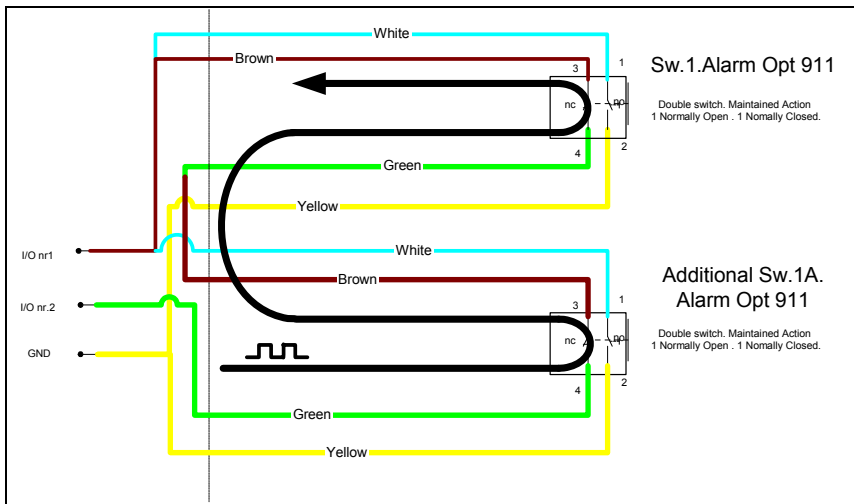
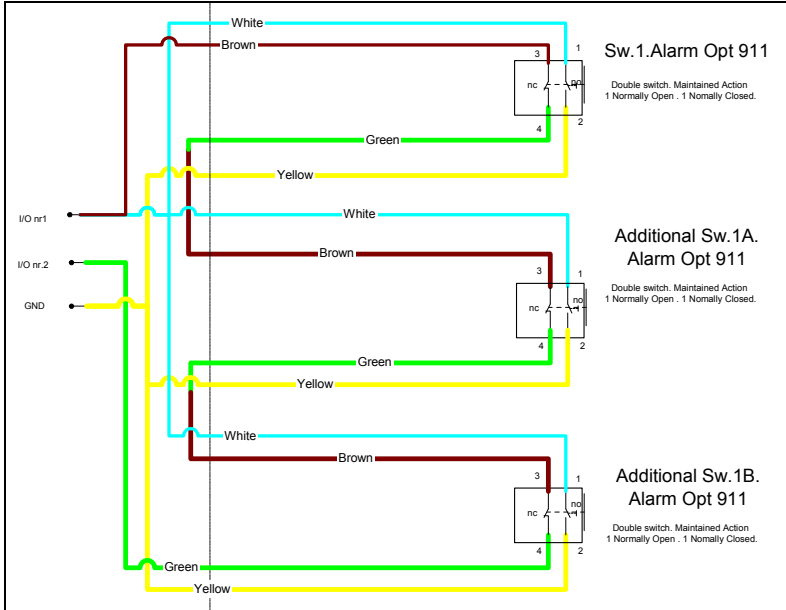

Figure 28 2 alert buttons in one set of I/O's
Figure 29 3 alert buttons in one set of I/O's
- The normally unused white wire is taken into use as shown in Table 6 (and Figure 28 & Figure 29).
- The wiring is changed according to Figure 28 or Figure 29.
Figure 28 shows how to add 2 buttons on one group of I/O's. The function of the buttons: Alert activation and testing, will be the same as with one button.
Figure 28 and Figure 29 shows how the wires are connected to GND, I/O 1 and I/O 2 in the interconnection box. The same is done when using I/O 3, I/O 4 and GND.